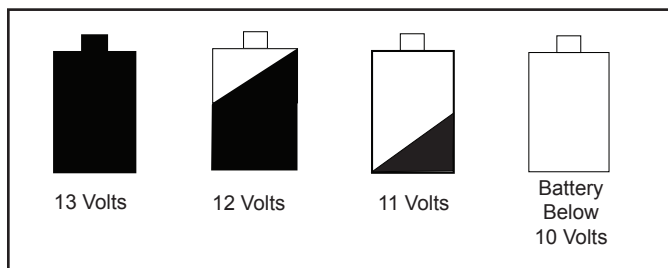

Figure 20.3
- A battery icon appears on your wall control to let you know you are now operating on battery power. **Figure 20.3.**